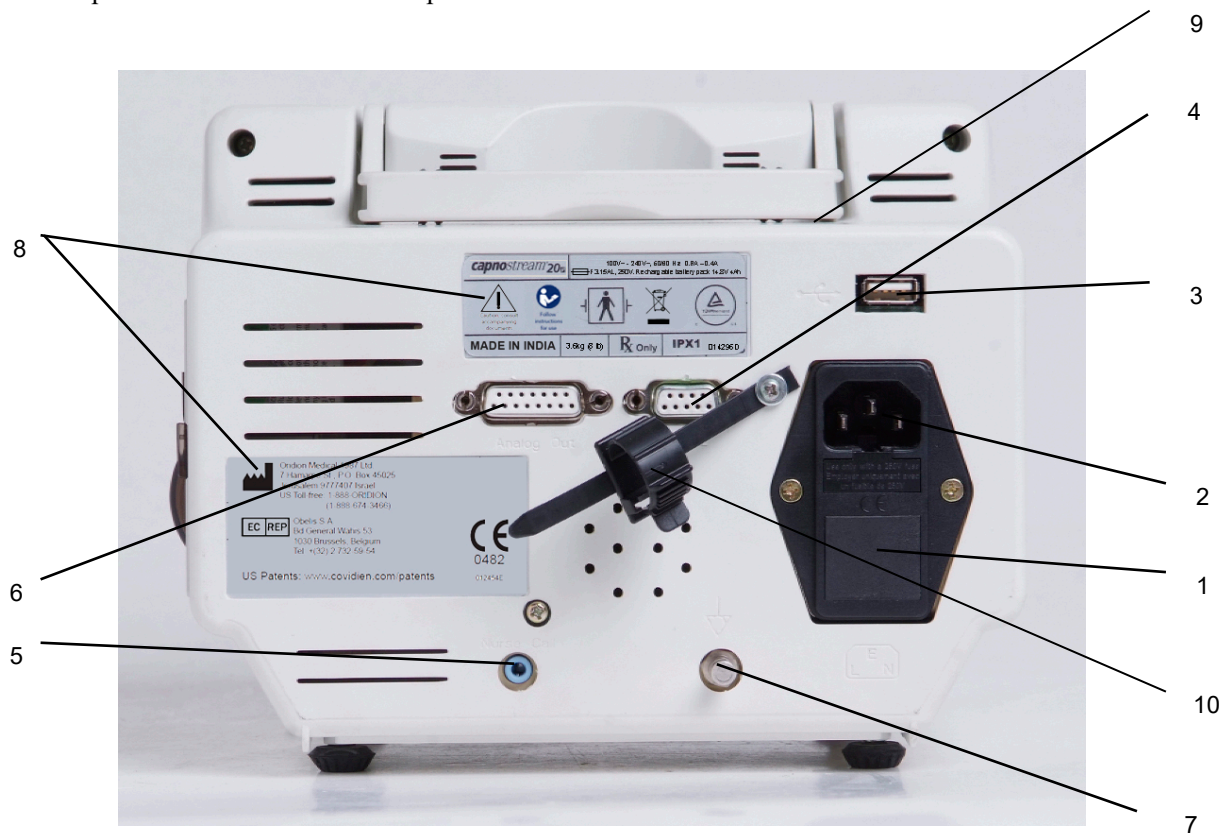

Figure 7 – Capnostream™20p Rear View
1. Plug the electrical cord into the mains plug in the rear of the monitor (see Figure 7 – Capnostream™20p Rear View on page 31). Clip the power cord strain relief around the cable and tighten to ensure that the power cord does not accidentally disconnect from the monitor.